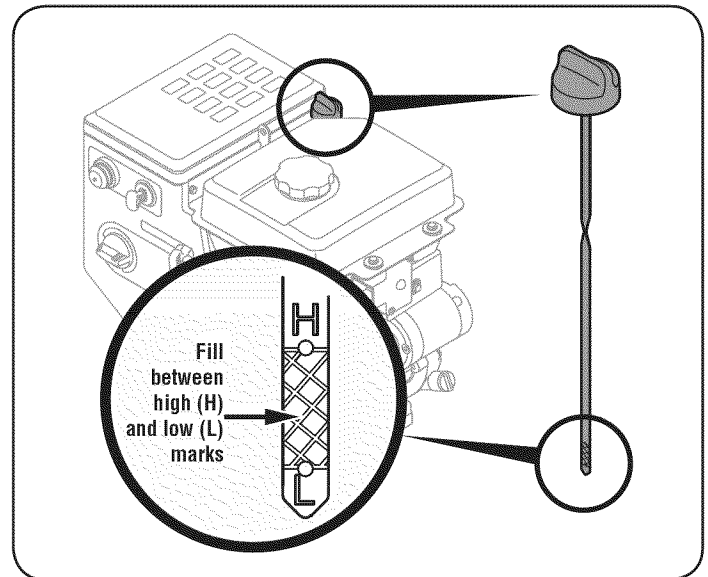

Figure 10
- Keep oil level between "H" and "L" marks on dipstick. See Figure 10.
1. Remove the oil filler cap/dipstick and wipe the dipstick clean. See Figure 10.
3. Remove the oil filler cap/dipstick. If the level is low, slowly add oil until oil level registers between high (H) and low (L), Figure 10.